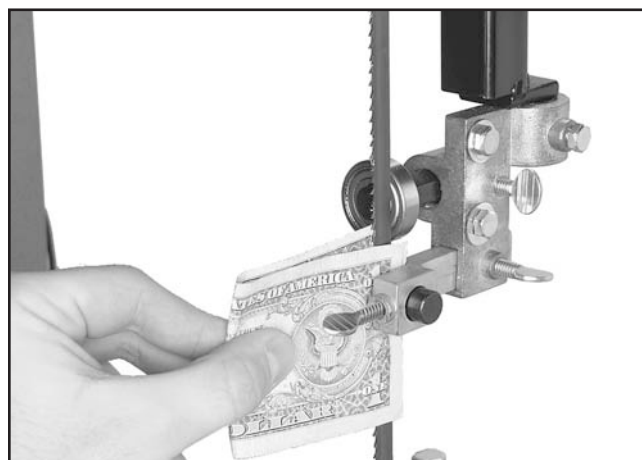

Figure 26. Blade guides against both sides of blade.
8. Fold a crisp dollar bill in half and place it over the blade (between the blade guides and the blade), as shown in **Figure 26**.